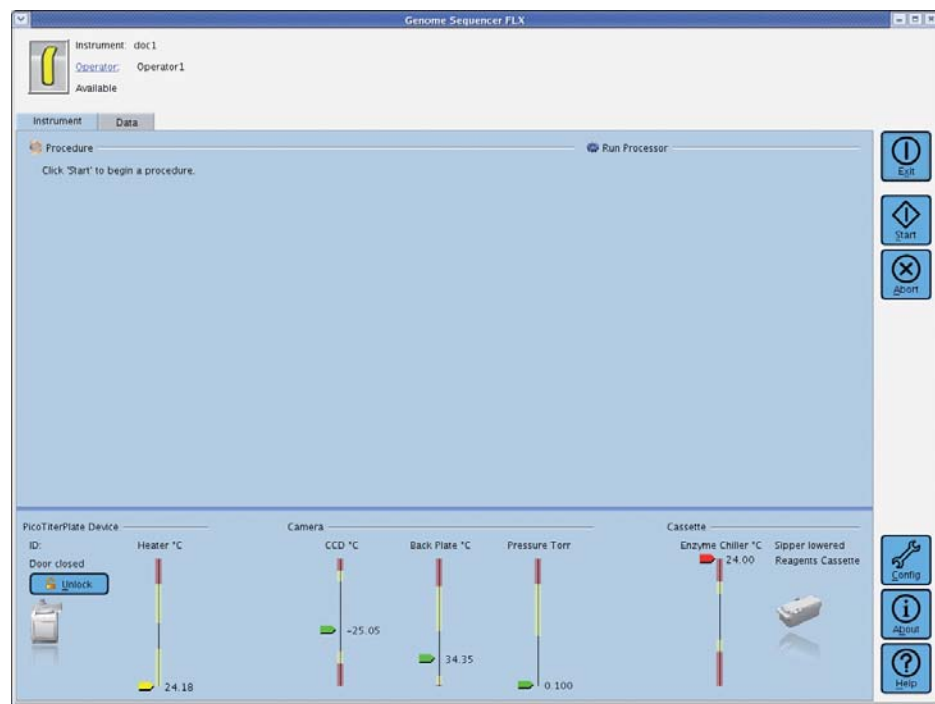

Figure 3: The GS Sequencer application window after an Operator logs in
- ▶ Login by selecting your user name and click "Sign In". The main window of the GS Sequencer application will open (Figure 3).